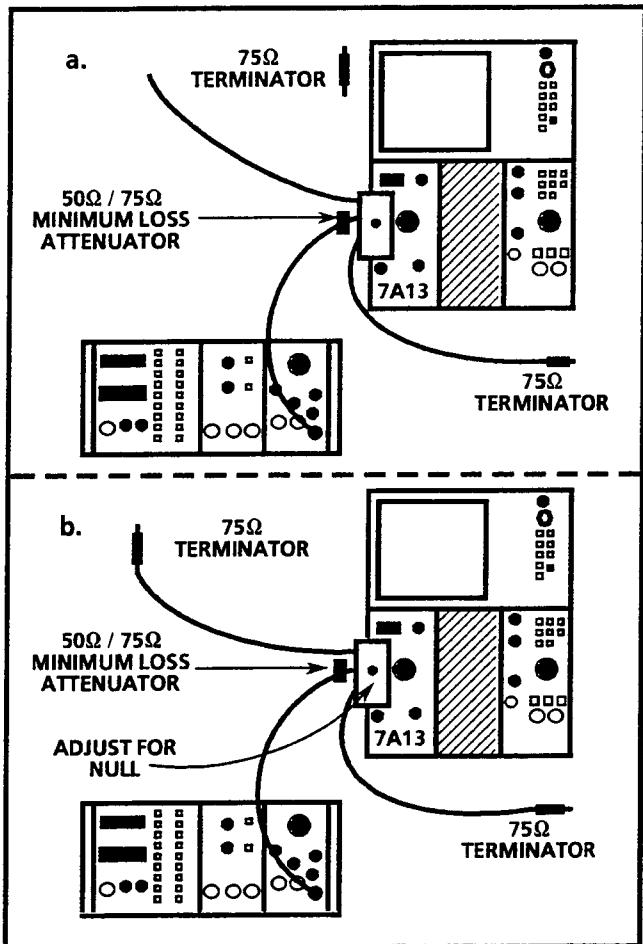

Fig. 5-11. Setting up the Return Loss Bridge: a) Set-up 500 mV amplitude. b) Null bridge.
- Connect the output from the sine wave generator, through a minimum loss attenuator, to the input of the Return Loss Bridge. Set the sine wave generator to 50 kHz. See Fig. 5-11.